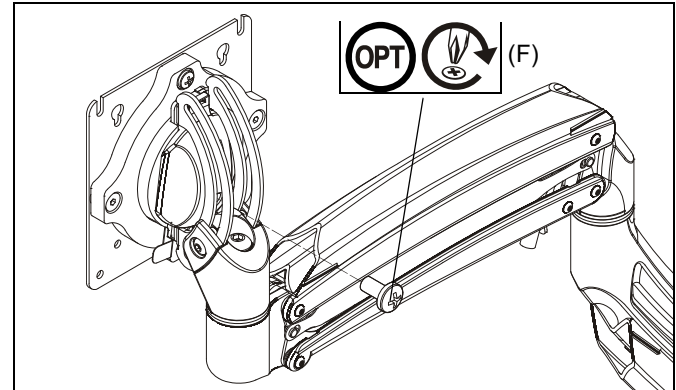

Figure 17
NOTE: In order to prevent display from being easily removed from mount using the quick release lever, install M4x4mm security screw (F) into lower hole on back of faceplate. (See Figure 17)